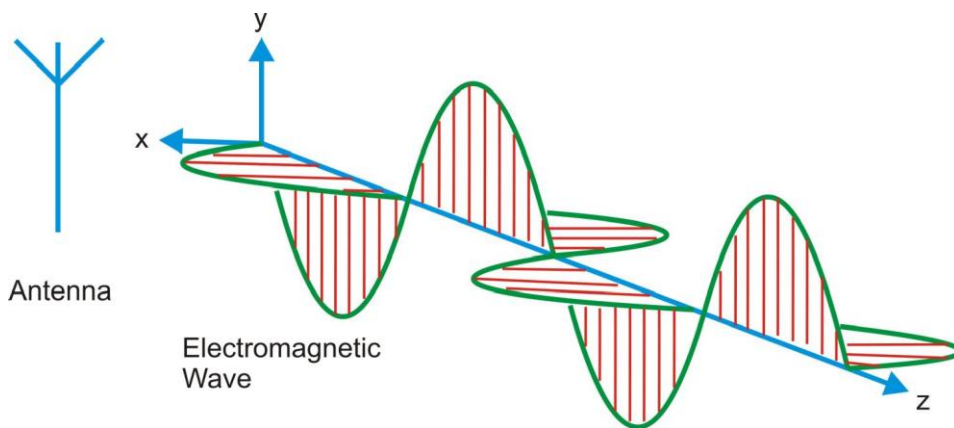

Figure 17
*Figure 17 shows an electromagnetic wave both fields exist together and they move at the speed of light in a direction that is at right angles to both fields (shown by the arrow labeled z).*